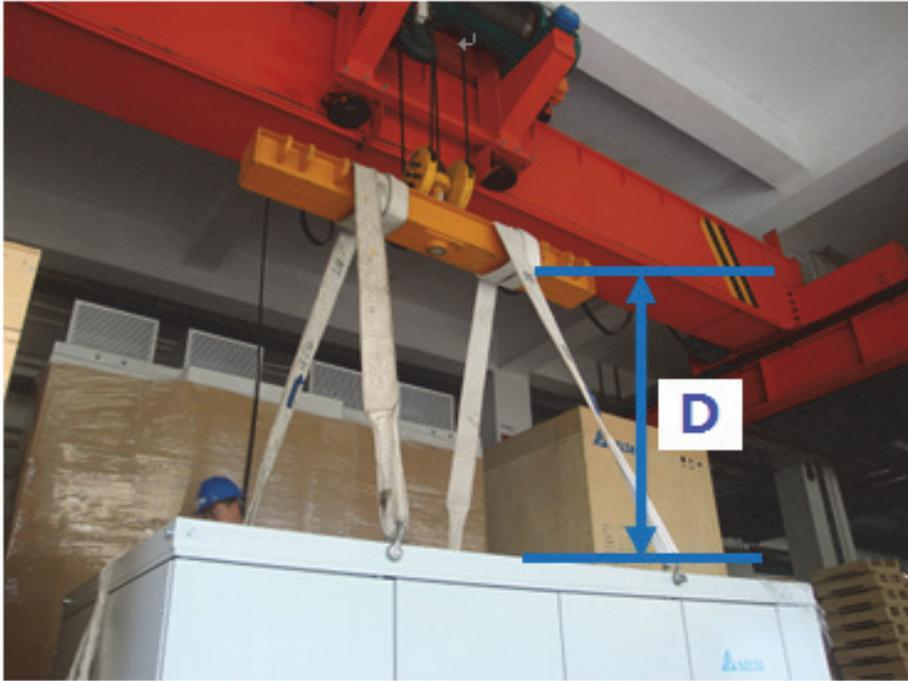

Fig. 6-11 Transportation Method of Crane 1
2. If crane hangs up cabinet from the top, a distance $D (>1.5m)$ between crane hook and cabinet top must be strictly followed, as shown in figure 6-11.